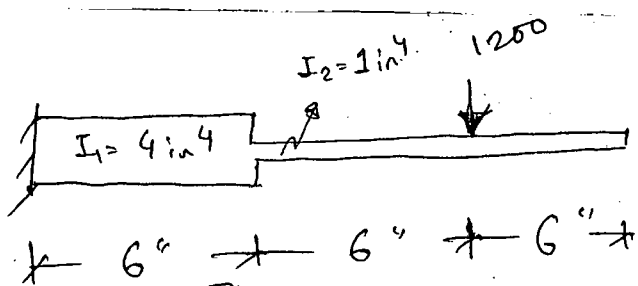

Fig: 9
10. Consider a cantilever beam of 18 inch long with a 1200 lb force applied 6 inch from the free end as shown in Figure 9. The moment of inertia, I , of the beam varies as shown in the figure. Find the deflection and angular rotation of the free end. Given: Neglect the weight of the beam and assume $E = 10^7$ psi. (14)